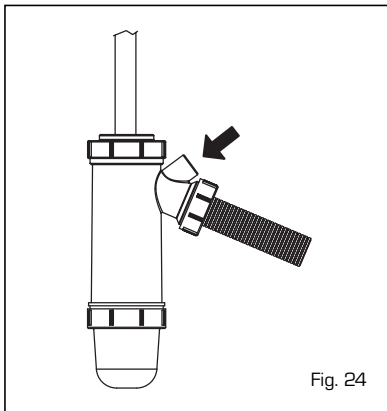

Fig. 24
**During maintenance operations the authorised technician must check that the syphoned drip is full of water** (this check is of importance particularly when the generator has been out of use for a long period of time). Filling is done via the special opening (fig. 24).